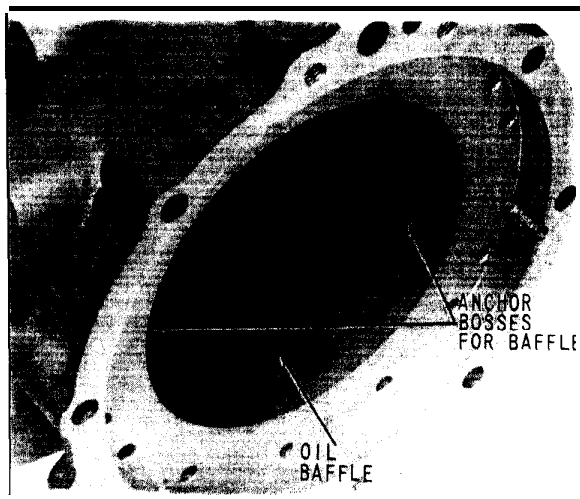

Fig. 24 Model 708 & 70C Oil Baffle Properly Installed
5. Press down on the baffle and snap the rectangular slots at each end on to the cast, bosses at each side of the case, (Fig. 24). These bosses will position and hold the baffle in its proper place.